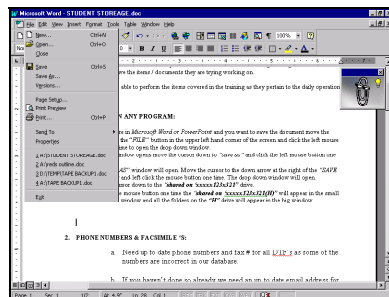

FIGURE VI.1
- 1) When the student wishes to save his or her progress, he or she should move the cursor up to the “FILE” button (see figure VI.1) in the upper left hand corner of the screen and left-click to open the drop down menu.